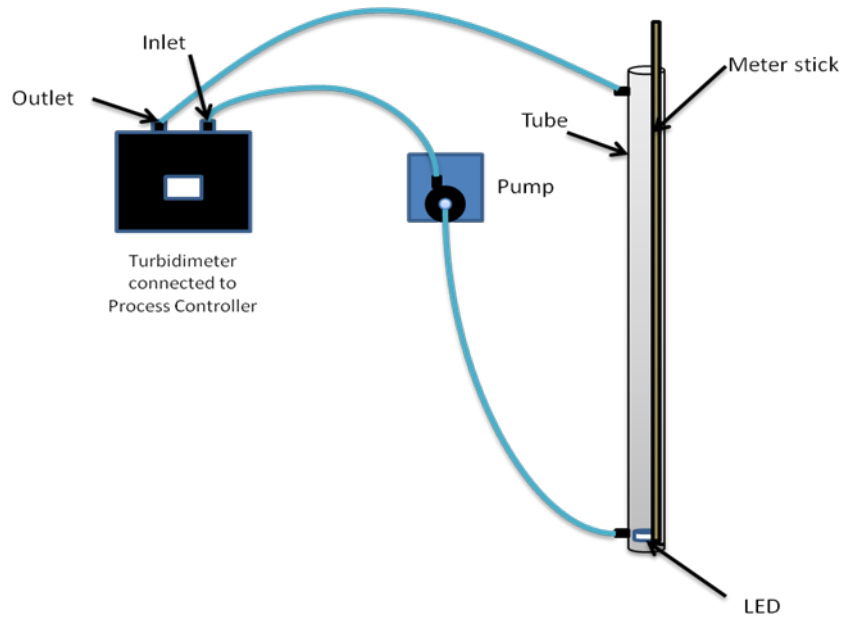
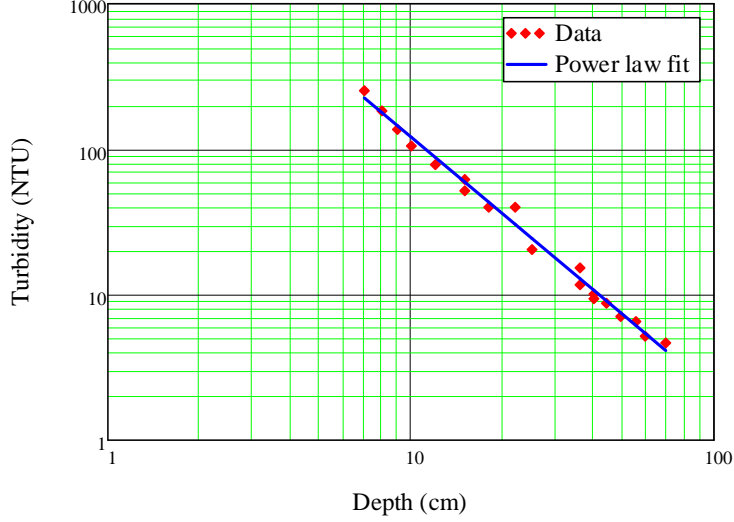

Figure 1: Test apparatus used to simultaneously measure the turbidity using an online meter and using the AguaClara turbidimeter.
Figure 2: Turbidity as a function of the depth at which fine text can be resolved.
Additional experiments can be done using the same test apparatus as was used during the spring of 2011 (Figure 1).
- Determine the effect of particle aggregation on turbidity measurements. Reduce particle aggregation by adding 2 mg of humic acid per 100 mg of clay. Prepare a stock solution that contains both humic acid and clay and add it incrementally to the suspension in the test apparatus to obtain turbidity as a function of optical resolution depth (Figure 1). Compare with the results for clay (Figure 2). Determine if the addition of humic acid causes a significant change in response of the AguaClara turbidimeter. If the AguaClara turbidimeter is very sensitive to